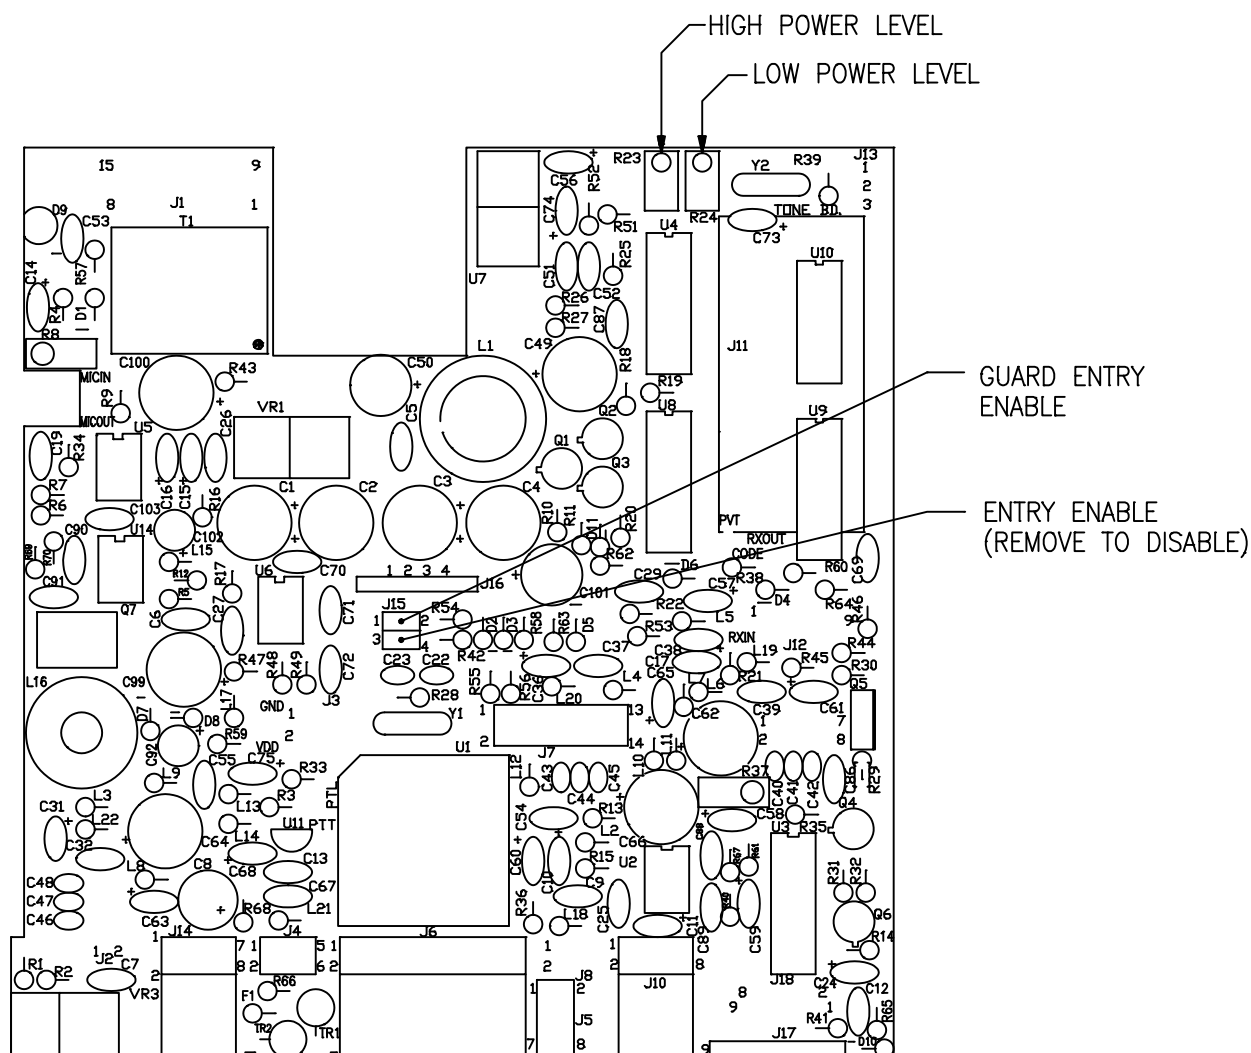

FIGURE 3.3 Internal Enable/Disable Jumper and Transmit High/Low Power Adjust Locations
1. Remove and retain the seven (7) No. 4-40 screws securing the bottom cover of the transceiver to its chassis.
2. Remove and retain the four (4) No. 4-40 screws securing the guard receiver PCB module in the chassis tray. Remove the guard receiver module from the chassis tray.
3. Remove and retain the two (2) screws securing the fuse board. Remove and retain the five (5) screws securing the chassis tray to the main chassis. Remove the chassis tray.
4. You should now have access to the Microprocessor Control Unit (MCU) PCB Module (See Figure 3-3). Remove the enable/disable jumper from pins 3 and 4 of J15.
3. 3. In low power mode, set the low power adjustment potentiometer R24 to produce 1.0 watt of RF output power (See Figure 3-3).